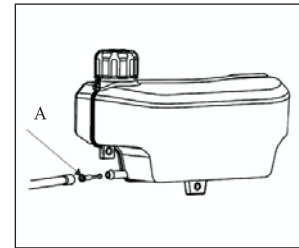

Fig. 14
3. Reinstall the fuel strainer (A) and fuel line. (See Fig. 14)